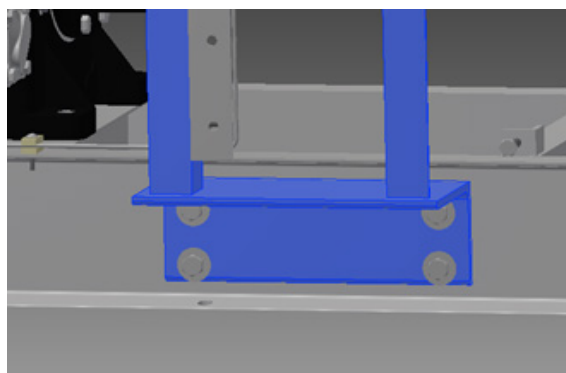

Figure 8. MicroVission Support
- Step 3.** Position the bottom edge of the MicroVission frame flush with the bottom of compressor base. Mark and drill four (4) 0.8125" (13/16") holes, see Figure 8.
Step 6. Run control tubing from the valves on the Block & Bleed bracket to the compressor as shown in Figures 8, 9 & 10.